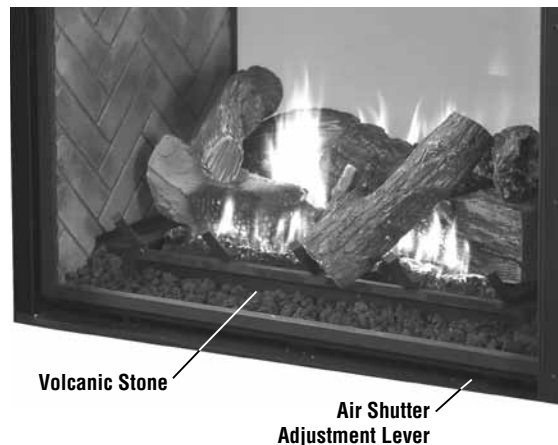

Figure 51: Burner Flame Appearance — Control Side
- Allow the burner to operate for at least 30 minutes while continuously observing the flame to ensure that the proper flame appearance has been achieved (see **Figures 51 and 52**).
- Adjust the air shutter using the lever on the lower right side of the firebox (**Figure 51**).
Note: See **Figures 51 and 52** for proper burner flame appearance.